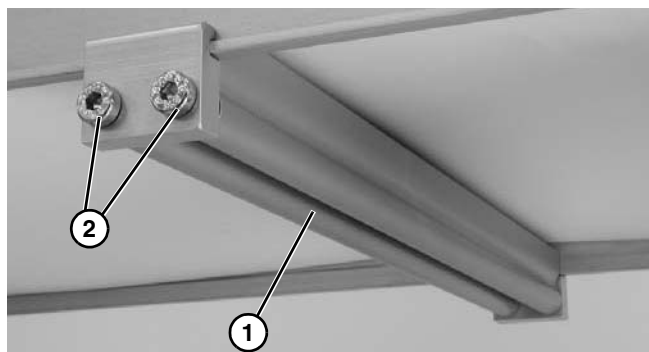

Figure 17
3. Install roller assembly as shown (**Figure 17, item 1**). Tighten screws (**Figure 17, item 1**) to 60 in-lb (7 Nm).